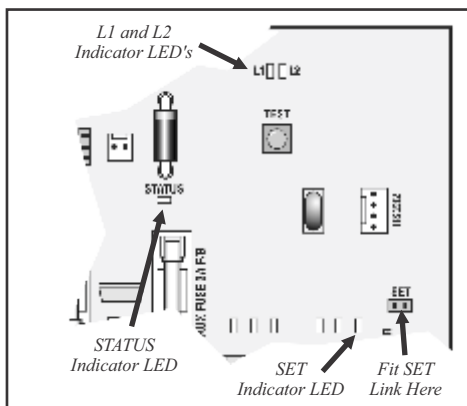

Figure 28 Controller SET Link & Programming LED's
12. **Fit the SET link** to the SET pins as shown in Fig. 28.
27. **Fit the SET link** to the SET pins as shown in figure 28.